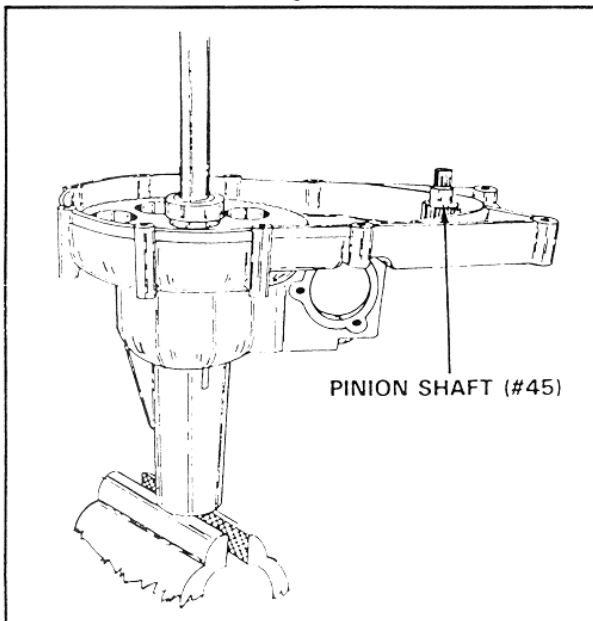

FIGURE 16
8.00 Slide one washer (#6) on axle shaft (#4) (Ref: differential housing side) then slide differential/axle assembly into right hand housing (#2) (Housing on which brake is mounted). Clamp axle (#4) gently in vise as shown in figure 16.
8.01 Insert keyed end of pinion shaft (#45) into bearing. See figure 16.